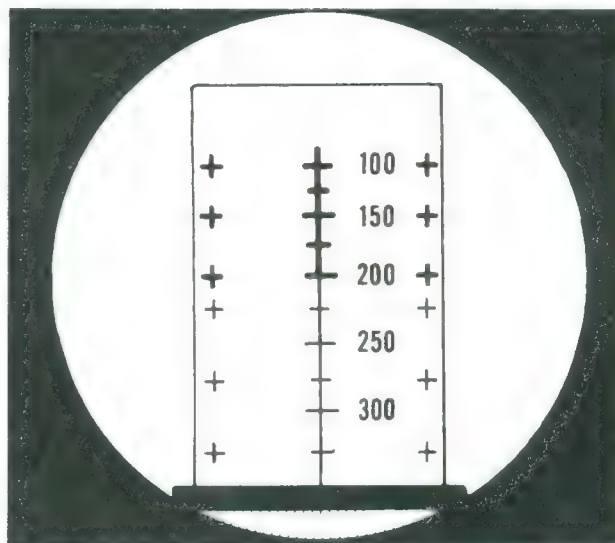

Figure 13. M72 sight reticle.
b. Reticle Pattern. The M72 sight reticle has a vertical center range line that is graduated in 25-meter increments (range segments) from 100 to 325 meters. On each side of the range line at ranges of 100, 150, 200, 225, 275, and 325 are lead index marks representing 15 miles per hour of target speed (fig. 13).